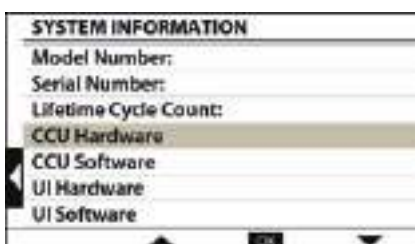

Figure 9 - System Information Screen
**NOTE:** All non-selectable items will display a short gray highlight preceding the selection; however, as the highlight of the screen moves over items with more information, it displays regular background length. (see Figures 9 & 10.)